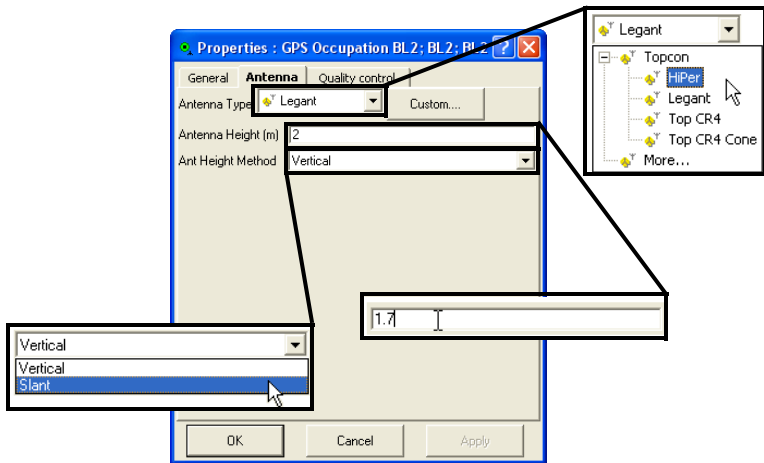

Figure 5-5. Enter New Parameters
3. On the **Antenna** tab and change the *Antenna Type*, *Antenna Height*, and *Ant Height Method* as needed (Figure 5-5 on page 5-9).